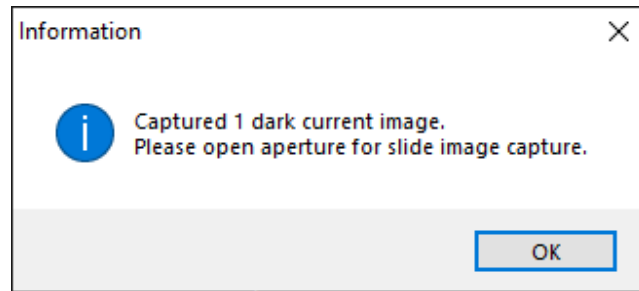

Figure 2.2f
- Then press OK. Do not turn off or change the brightness of the illuminator. The dark image that will be used is the average of the recorded dark frames. The following dialog appears (Figure 2.2f). At this point divert the light path from the eye pieces to the HSI camera by pulling the slide bar all the way out on the trinocular head (Figure 2.2g).